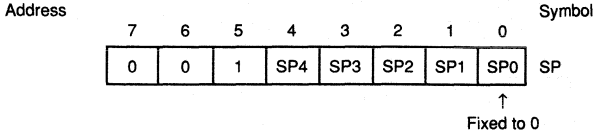

Fig. 4.6-1 Stack Pointer Format
4.6 Stack Pointer (SP) – 8 bits
The μPD75402A uses general purpose RAM as stack memory (LIFO). The stack pointer (SP) is an 8-bit register which retains the stack memory area top address information . Fig. 4.6-1 shows the stack pointer (SP) format.